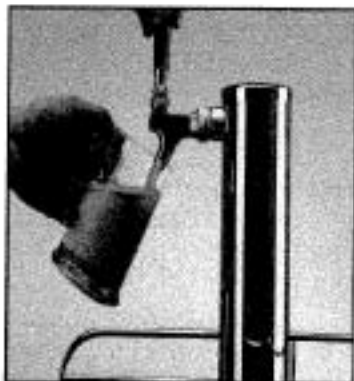

Fig. 12
2. Place glass beneath tap, and tilt at a 45° angle. (as shown in Fig. 12) Leaving approximately 1/4" between glass and faucet.